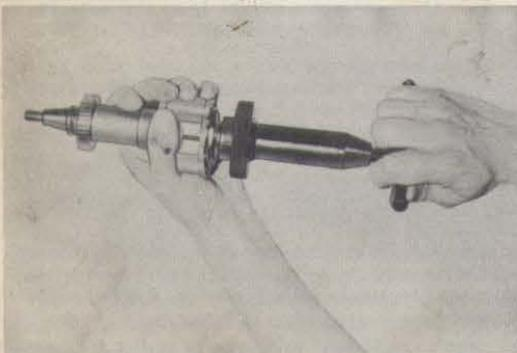

Figure 11—Removing Inside Ball Race From Breaker End of Rotating Magnet
(5) Remove the outside ball race from the housing with puller No. 11-992 and the inside race from the breaker end of the rotating magnet with puller No. 11-1049. (See figure 11.)